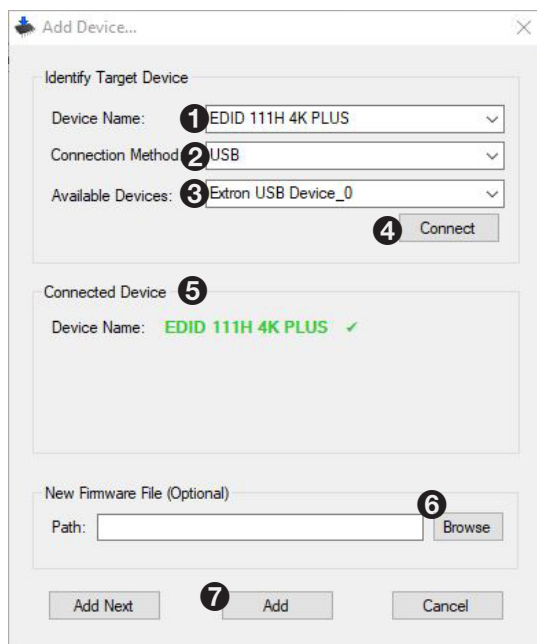

Figure 16. Add Device Dialog Box
2. Open Firmware Loader and establish a connection between the computer and the device. The **Add Device...** dialog box opens (see figure 16).
3. From the **Device Name** drop-down list (figure 16, ❶), select **EDID 111H 4K PLUS**.
4. From the **Connection Method:** drop-down list (❷), select **USB**.
5. From the **Available Devices:** drop-down list (❸), select **Extron USB Device_0**.